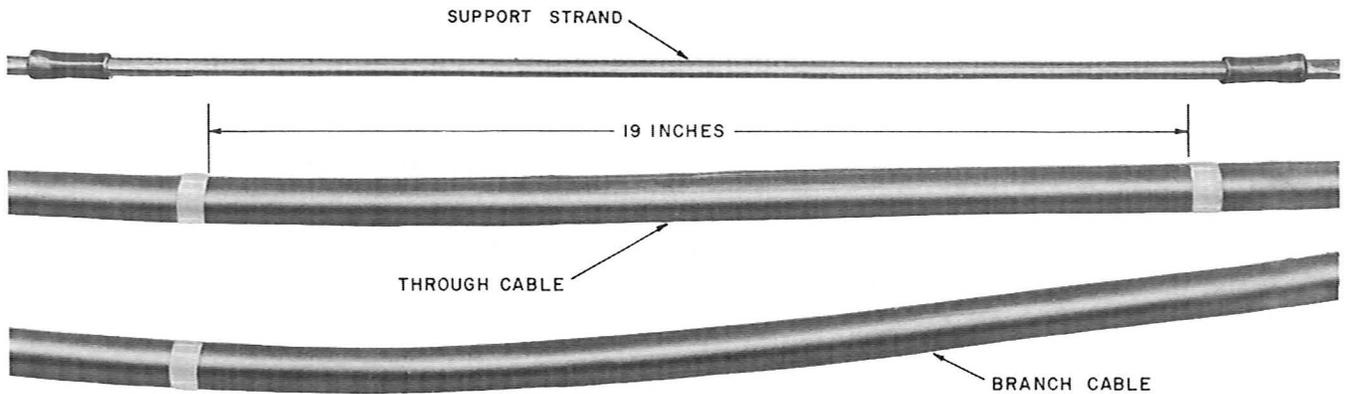

Fig. 25—Closure Location Marked on Self-Supporting Cable
5.20 Prior to starting sheath preparation for self-supporting cable, make sure that the distance between the B Paper Tape collars is as shown in Fig. 25.